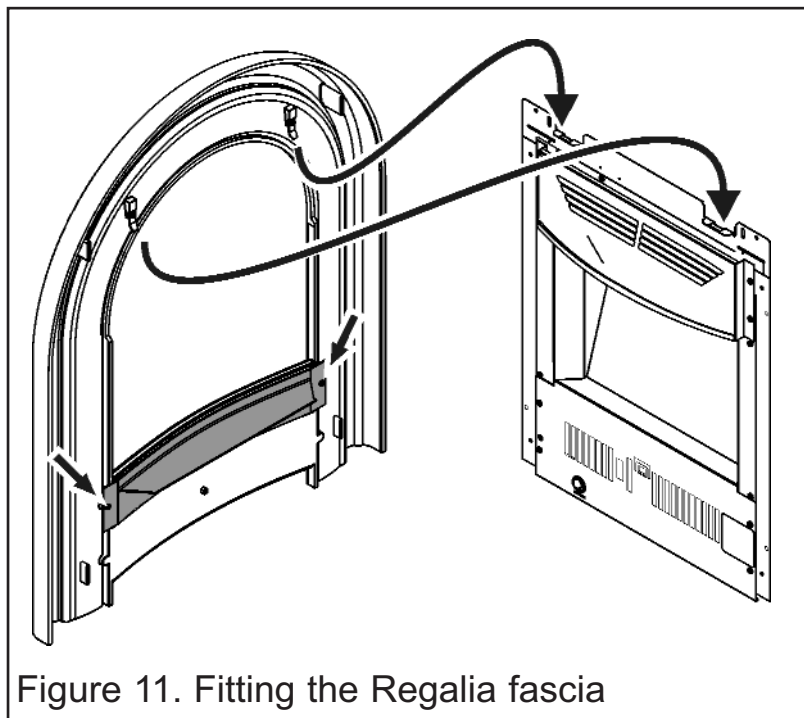

Figure 11. Fitting the Regalia fascia
2. Supplied with the fascia is a black decorative moulding. Remove the two screws from the rear of the fascia (See figure 11), locate the moulding and secure using the two screws removed previously.
3. Hold the fascia firmly and lift into place. Locate the fascia hanging brackets into those on top of the firefront (See figure 11). Lower the fascia into place and swing the bottom of the fascia towards the firefront.